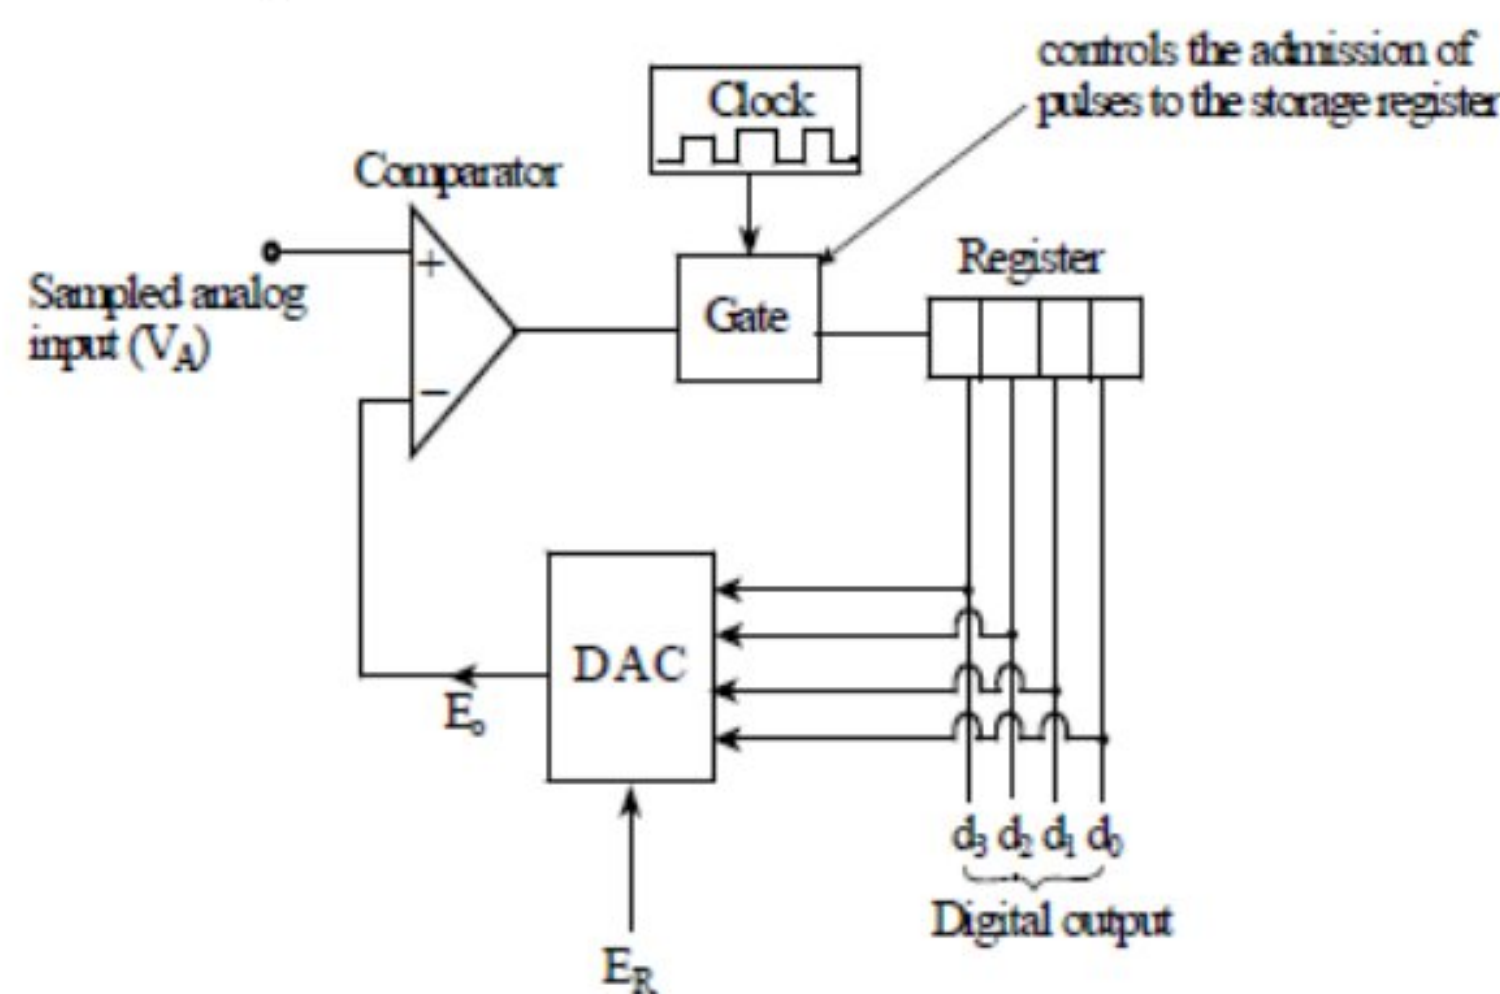

Figure 5.3 4-bit successive approximation ADC
- Figure 5.3 illustrates the subsystems involved.